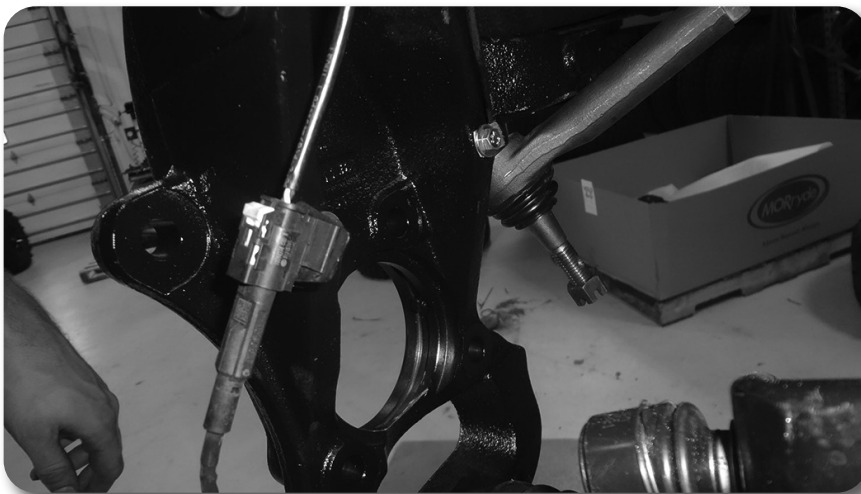

Figure 44
67. Attach the brake sensor plug to the knuckle with the factory bracket and 6mm bolts, washers, and thread locker Fig. 44. Torque to 92 in-lbs.